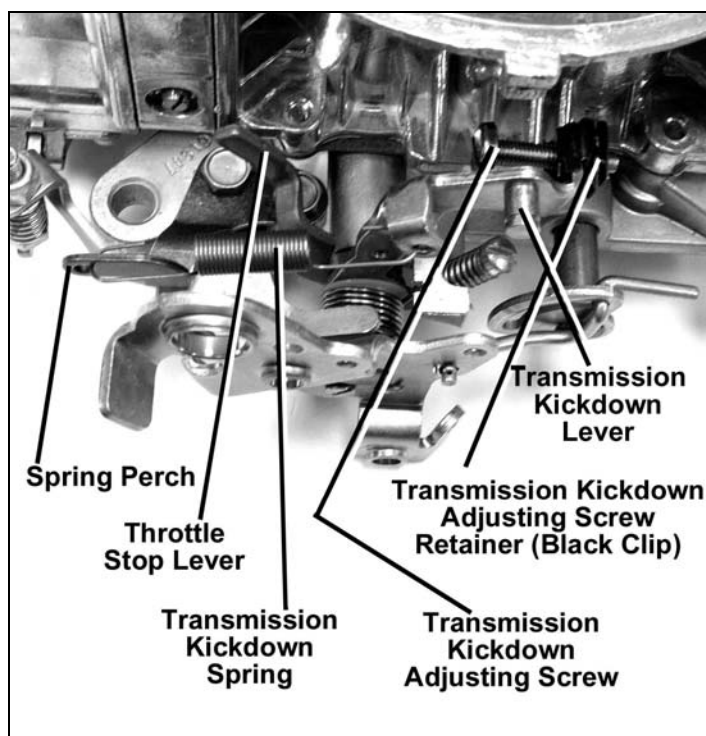
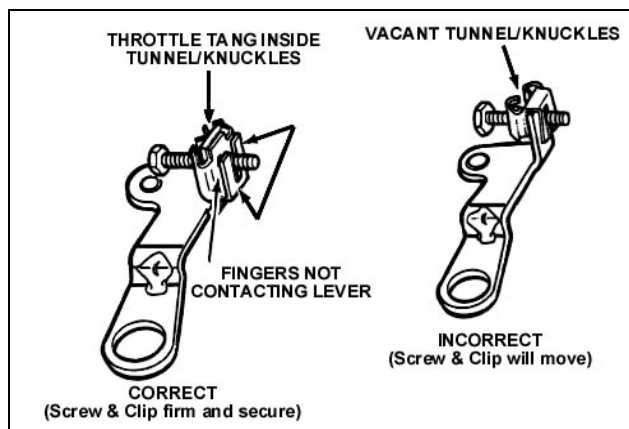

Figure 2—Ford applications
Figure 3—Ford applications
2. Insert the transmission kickdown screw with the black retaining clip on the transmission kickdown lever (Figure 2). This assembly must be installed according to the detailed drawing (Figure 3). See the appropriate service manual and page 8 of these instructions for proper transmission adjustment.
4. Install the transmission kickdown spring between the transmission kickdown lever and spring perch (Figure 2).